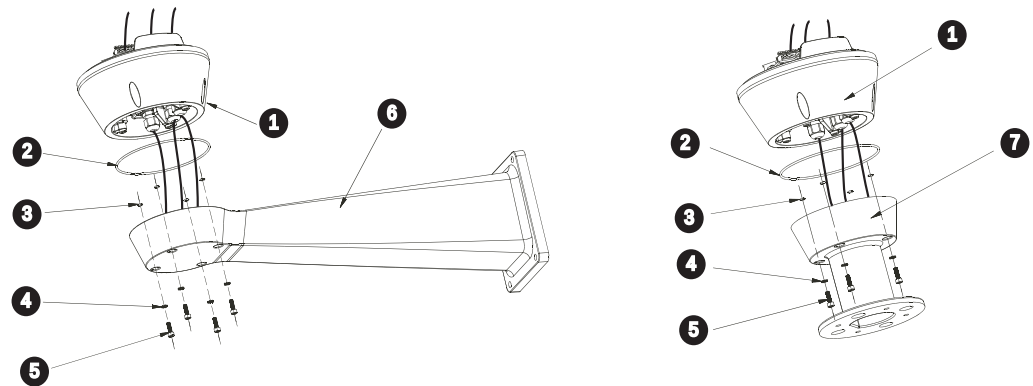

Figure 4.3 Schematic Diagram
8. Position the base on the optional wall or pole mount, guiding the cables so that they are positioned inside the wall or pole mount (see *Figure 4.3*).